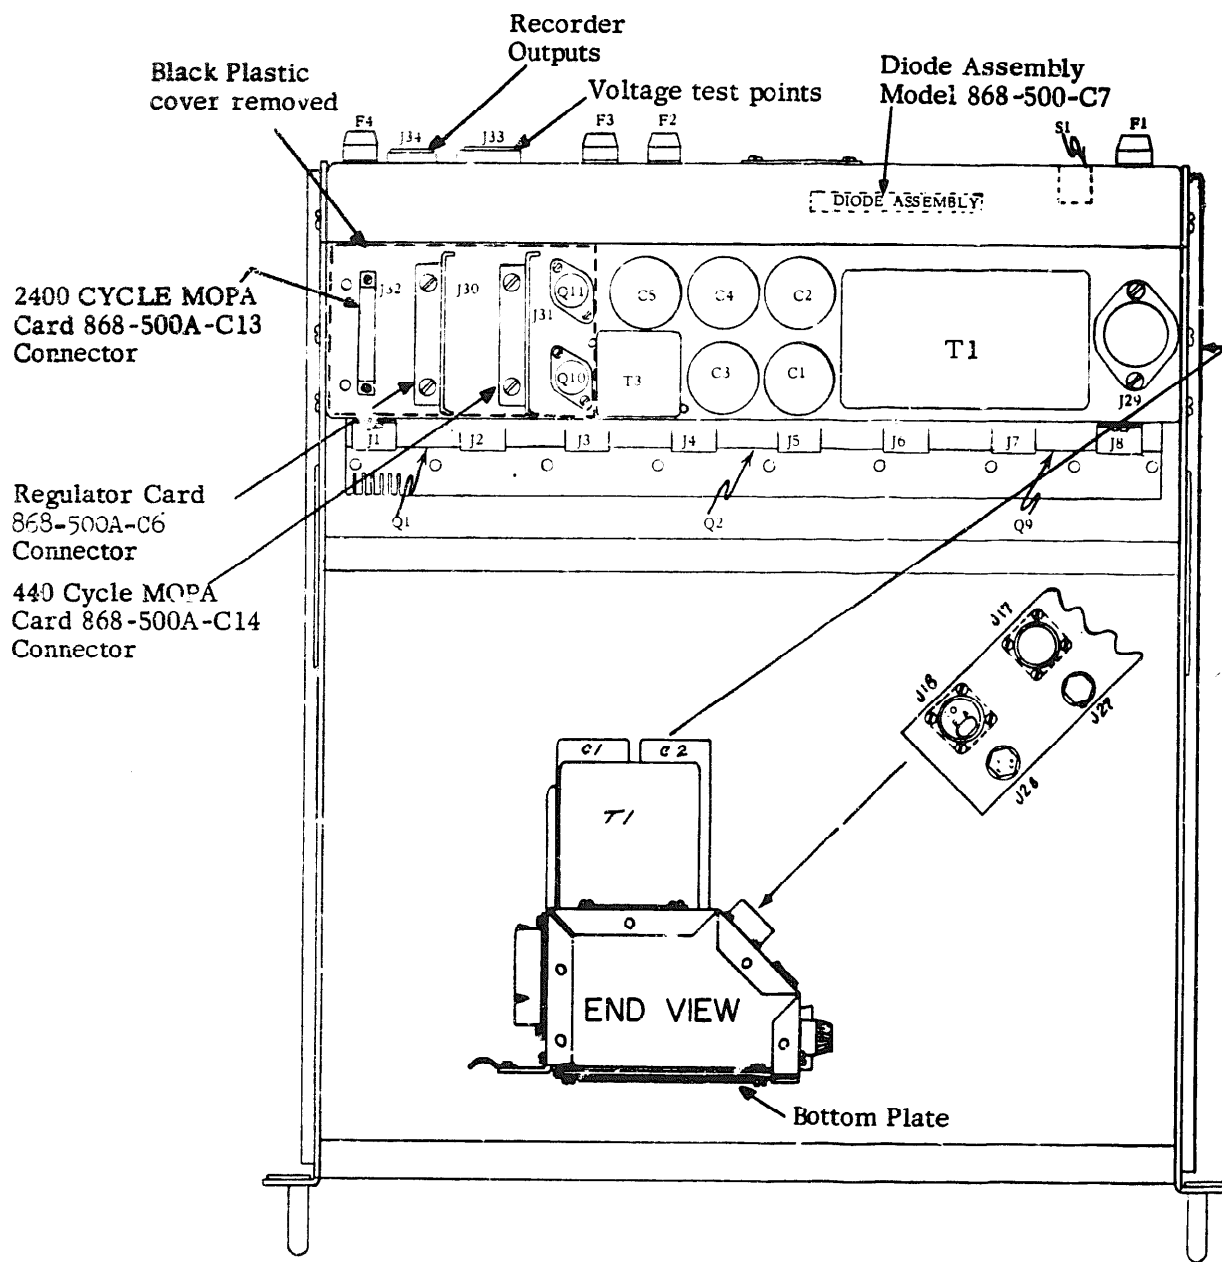

Figure D-5. PREAMPLIFIER SUPPLY (TOP VIEW)
- (1) These cards are located at the rear of the amplifier power supply under a black plastic cover and are accessible at the rear of the cabinet, when the rear door of the cabinet is opened.
- (c) Locate the card(s) to be removed using Figure D-5 as a guide.